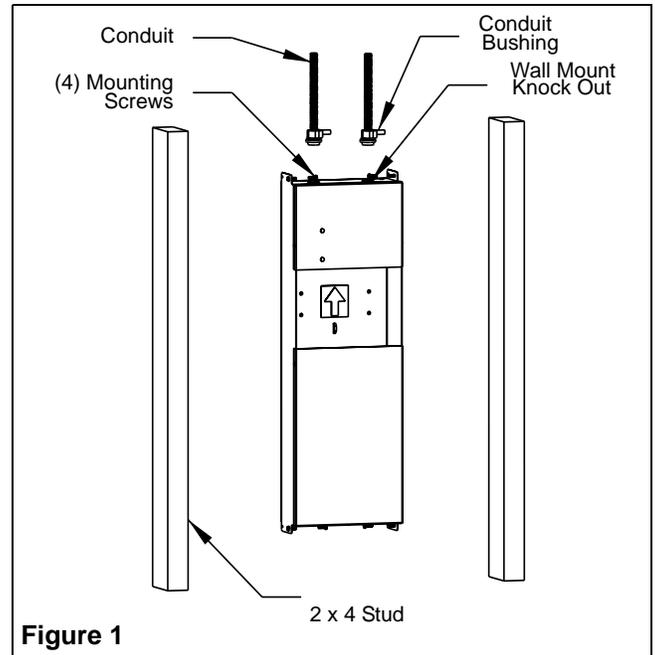

Figure 1
Back-Box Installation in the Wall (Figure 1)
1. Knock out the hole(s) on top of the back-box for incoming cable(s) (AC line; DC emergency line, Figure 1).
3. Use appropriate fasteners (not supplied) to mount the back-box on the stud (Figure 1).